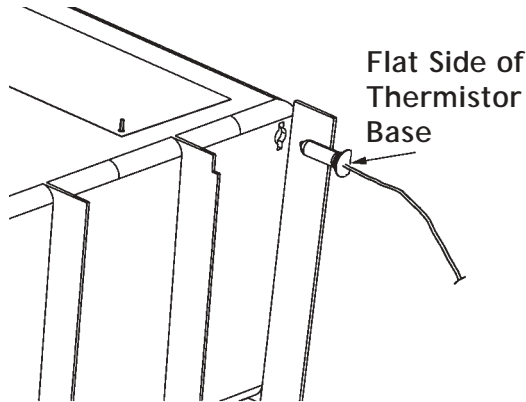

Figure 2-17
- When placing the thermistor back into the inner enclosure, make sure it is in its proper orientation. (See Figure 2-17)